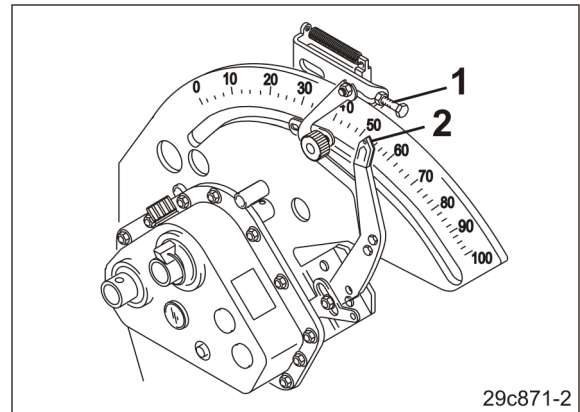

Fig. 162
3. Use the adjusting screw (Fig. 162/1) to set the pointer (Fig. 162/2) of the gearbox lever to the desired gearbox setting for the elevated seeding rate.
Unscrew adjusting screw (Fig. 162/1):
Screw in adjusting screw (Fig. 162/1):